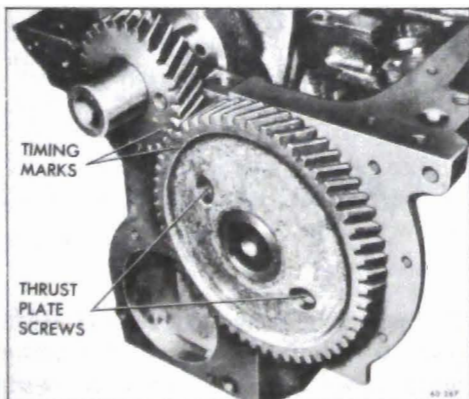

Figure 60-128 - Timing Gear Marks
remove the two camshaft thrust plate bolts by working through holes in the crankshaft gear. See Figure 60-128.
2. Turn crankshaft and camshaft so that the valve timing marks on the gear teeth will line up. See Figure 60-128. Push camshaft into position. Install camshaft thrust plate to block bolts and torque to specifications.